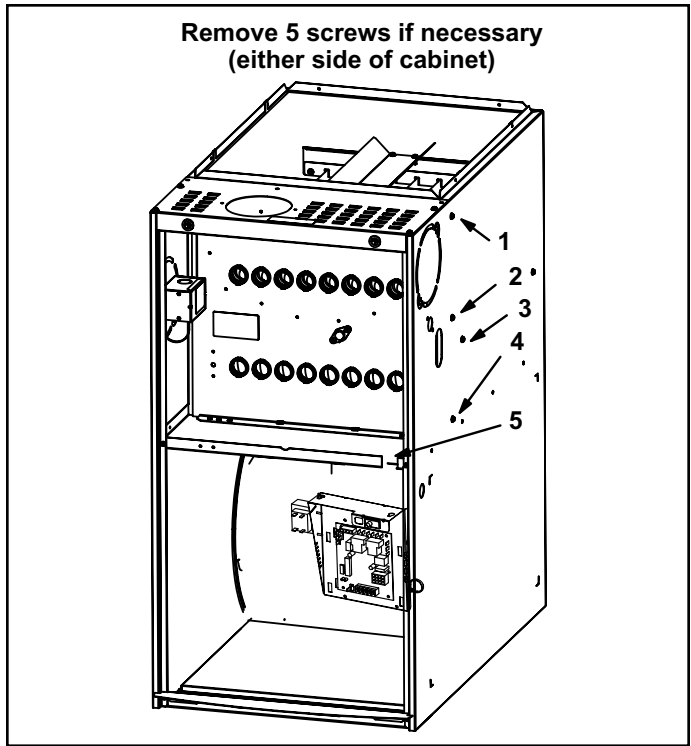

Figure 23.
- Remove heat exchanger. It may be necessary to spread cabinet side to allow more room. If so, remove five screws from the left side or right side of cabinet. See Figure 23.